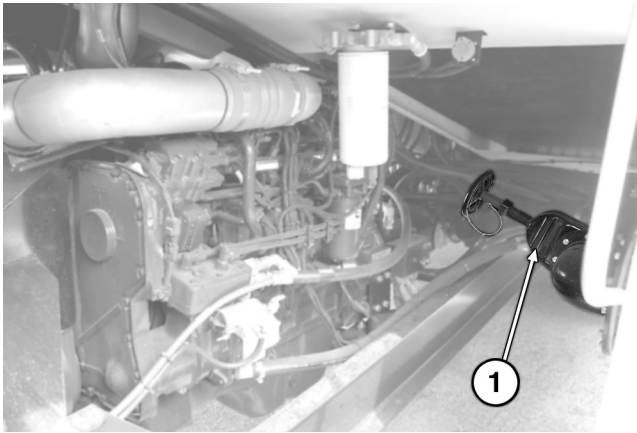

Figure 13. Gate Valve
5. Make sure the gate valve, **(Figure 13)** in the suction tube is turned fully open (counterclockwise) with sleeve and handle installed. Do not attempt to start the engine with the gate valve closed. This will block the flow to the pumps and cause cavitation.